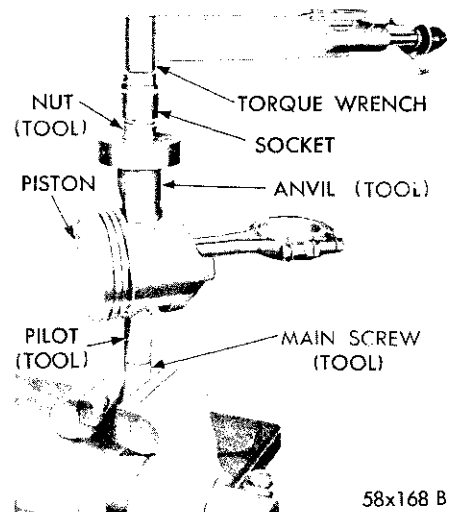

Fig. 45—Testing Fit with Pin in Connecting Rod
(11) Place the assembly in a vise, as shown in Figure 45.
(12) Attach the torque wrench to nut and check torque up to 15 foot-pounds torque. If the connecting rod moves downward on piston pin, reject this connecting rod and piston pin combination. Obtain a connecting rod with proper small end bore diameter and repeat the installation and checking procedure.